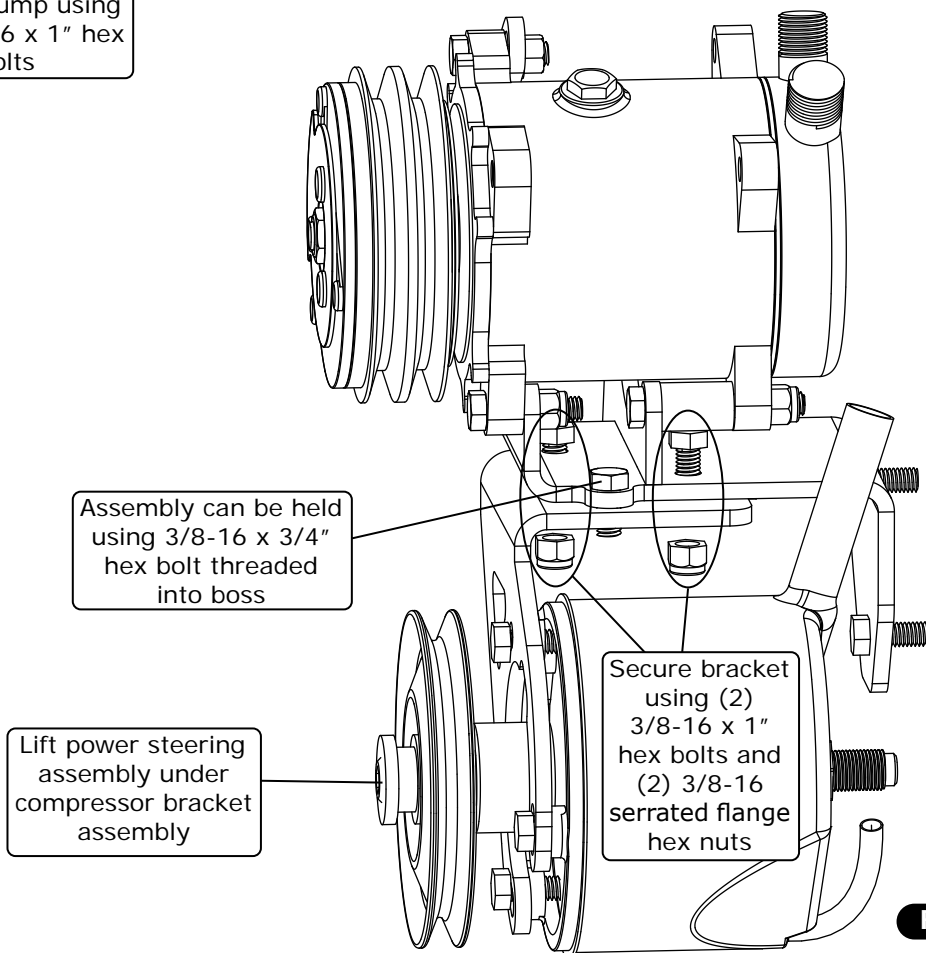

Figure 5
8. Lift the power steering assembly under the compressor bracket assembly (See Figure 5, below).
9. The power steering assembly can be held in place using a 3/8-16 x 3/4" hex bolt threaded into the boss of the power steering bracket (See Figure 5, below).
10. Secure the bracket using (2) 3/8-16 x 1" hex bolts and (2) 3/8-16 serrated flange hex nuts (See Figure 5, below).
11. Tighten all (3) bolts at this time.